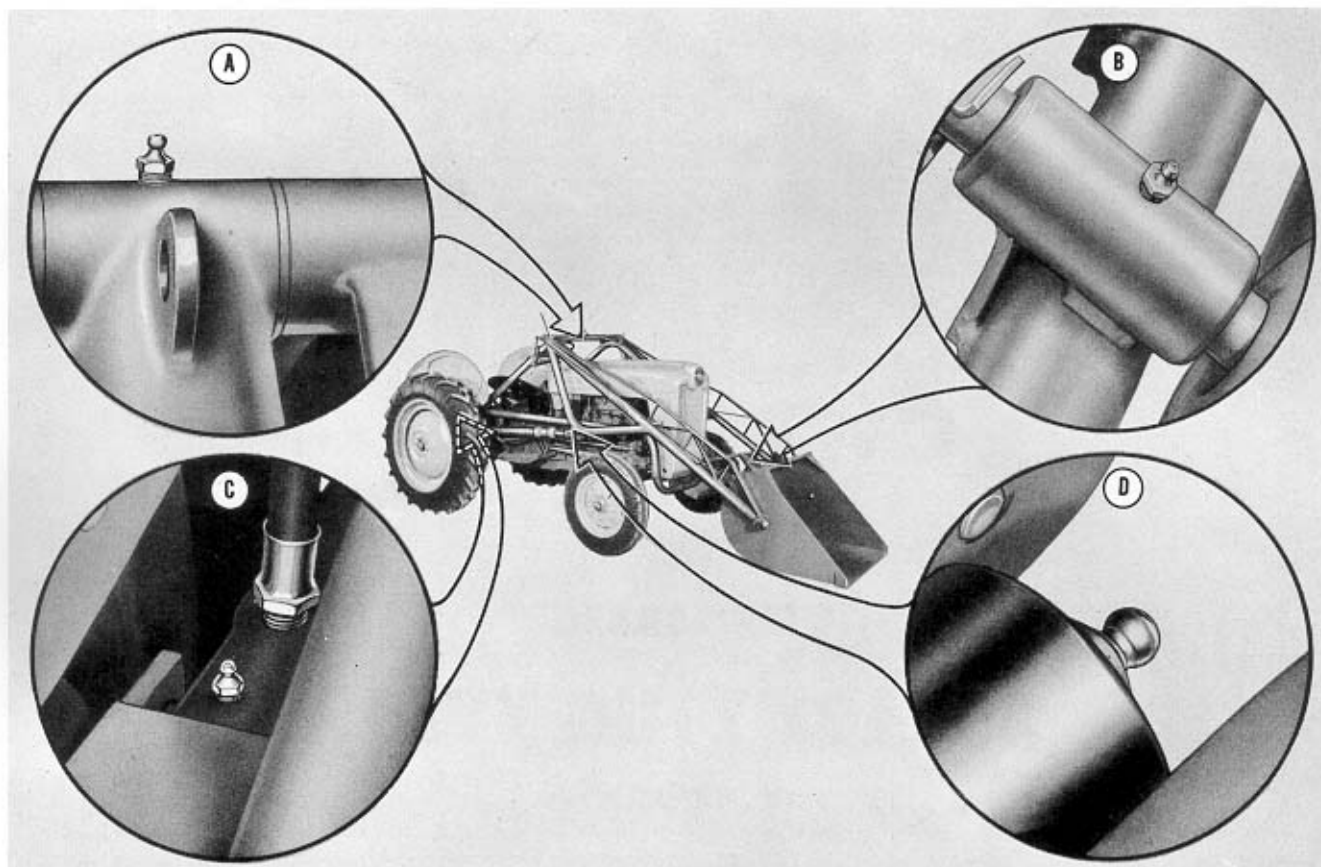

Figure 9
er, Model 19-59. One is located on the main frame cross member, one on the pivot sleeve of each lift arm (A), Figure 9, one on the bucket latch assembly (B), one on the rear of each hydraulic cylinder (C), and one on the piston shaft of each hydraulic cylinder (D). Lubricate these fittings with a good grade of pressure gun grease after every eight hours of operation.